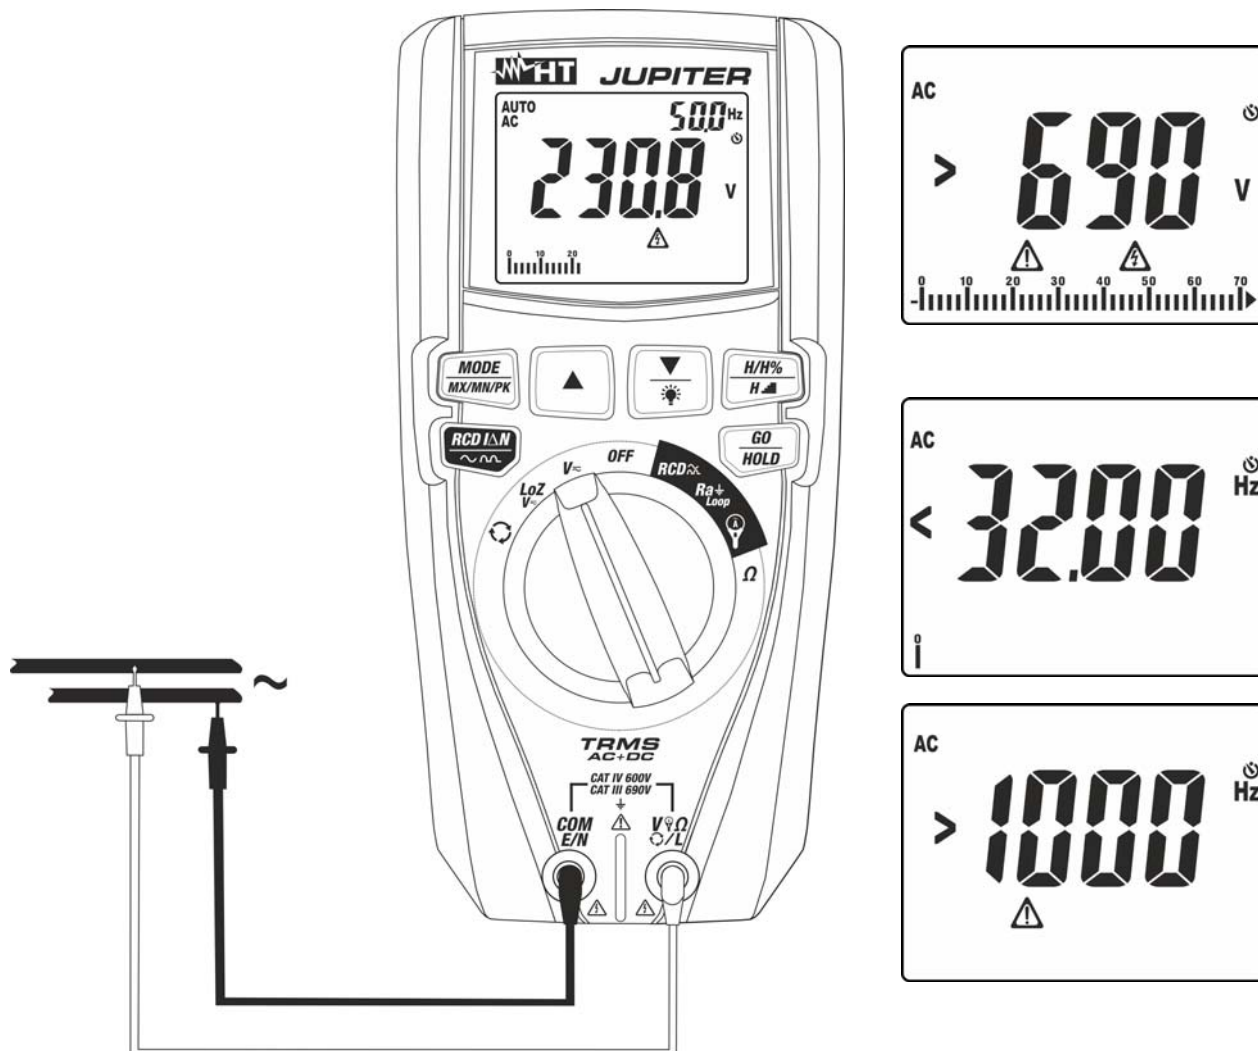

Fig. 9: Use of the instrument for AC voltage measurement
4. Position the red lead and the black lead respectively in the spots of the circuit to be measured (see Fig. 9). The display shows the value of voltage. On the top of the display on the right side, the value of voltage frequency is displayed. Press key **MODE/MX/MN/PK** to display the value of frequency with a higher resolution.
5. If the display shows the message ">690V" (see Fig. 9), the maximum measurable value has been reached.
6. If the display shows the messages "<32Hz" or ">1000Hz" (see Fig. 9), the value of frequency is out of the measuring range 32Hz ÷ 1000Hz.